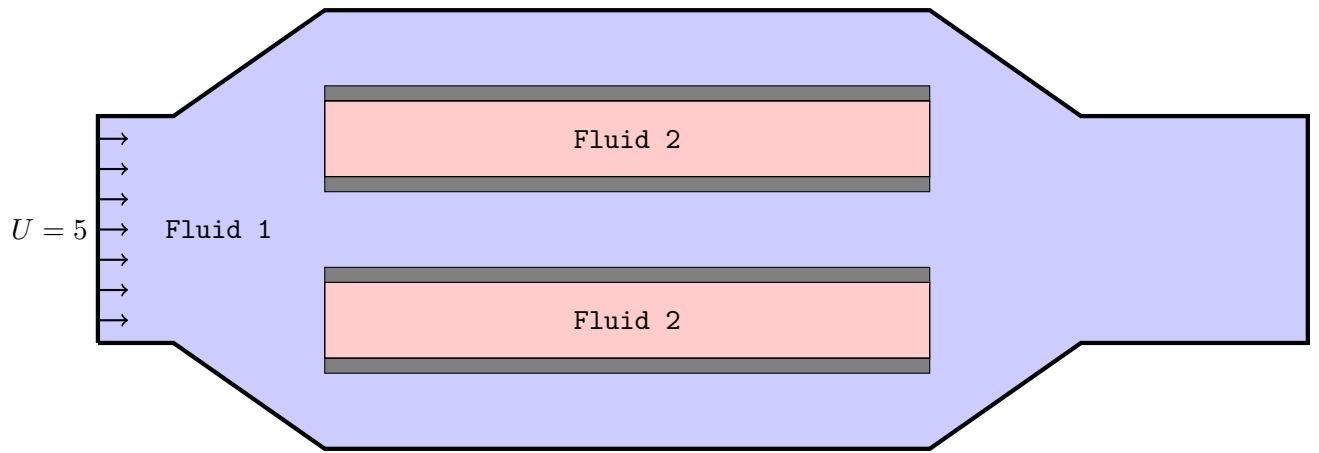
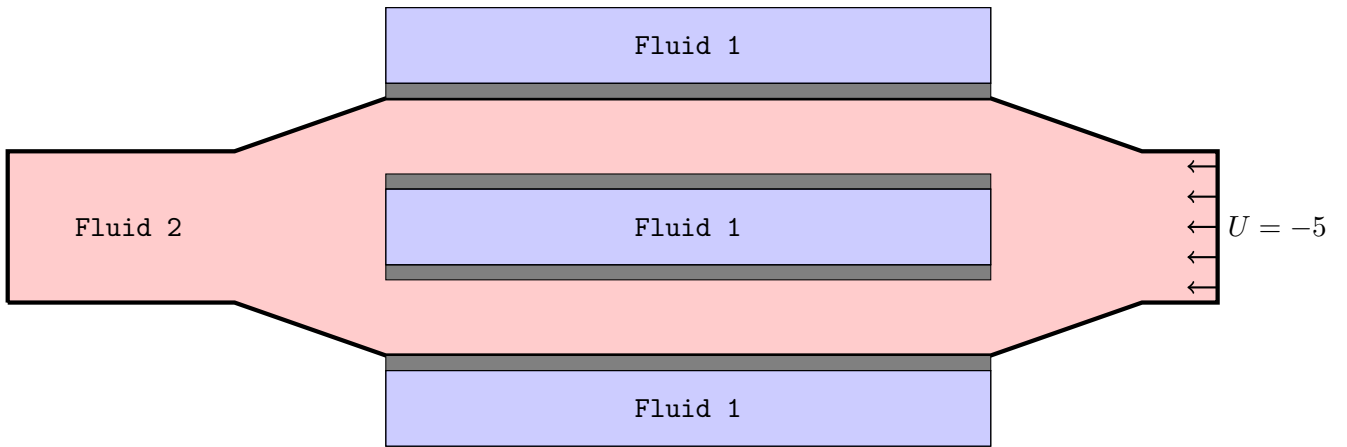

Figure 6: 2D heat-exchanger, Fluid 1
Figure 7: Geometric setup: 2D heat-exchanger, Fluid 2
- c) **2D heat exchanger:** A heat exchanger is a tool that heats up a cold target fluid (here fluid domain 2) by a warm fluid (here fluid domain 1) without mixing the two fluids. The two fluid domains, Figure 6 and Figure 7, are aligned at the four thin gray bars. The four bars are the solid participant. Add two new cases `F1-heat-exchange` and `F2-heat-exchange` in `spec_boundary_val()` to set the inflow velocity and temperature. Use the provided case files to run the simulation and make sure it works. Depending on your implementation, you may need to adjust the geometry files. Experiment with different shapes, parameters and ‘turning on’ gravity, to allow for a better exchange of heat.